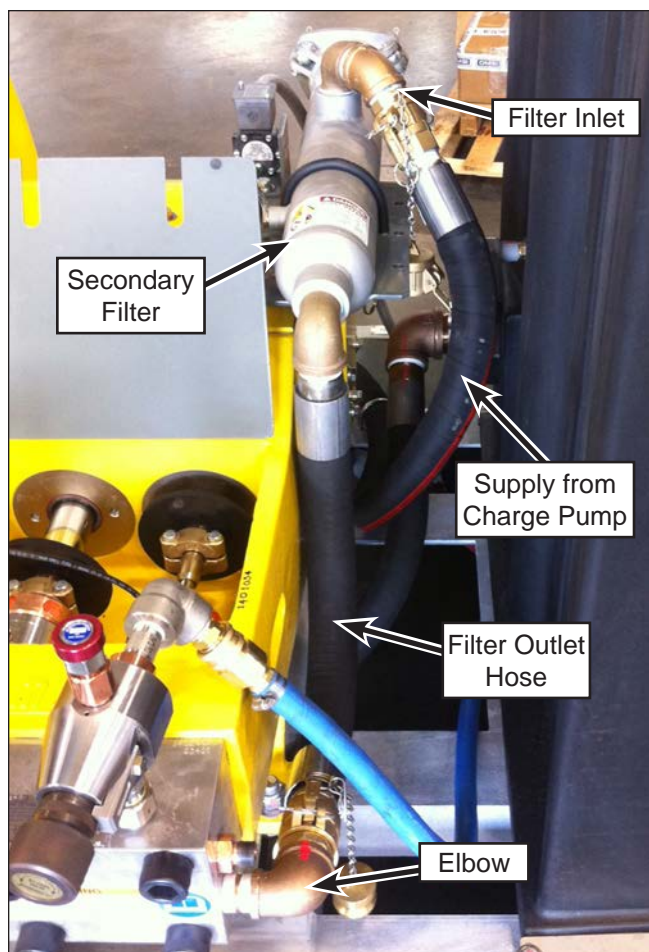

Figure 42: Plumbing.
3. Remove the plug from the filter outlet hose (Figure 42). Connect the hose to the elbow on the 40K manifold.